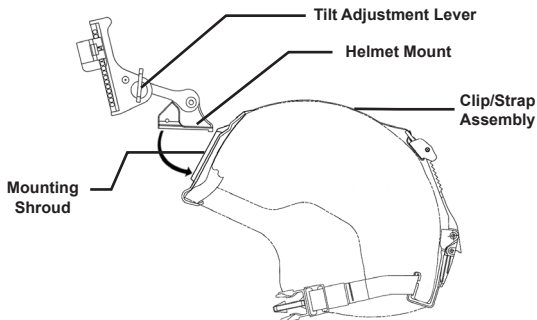

Figure 4-11. Attaching the Mount Assembly to the Clip/Strap Assembly
4. With the catch in the most extended position, place the strap over the top of the helmet, center and hook the rear bracket onto the rear of the helmet. Center the front bracket hook on the front of the helmet and hold it in place (see Figure 4-11).
6. If the PASGT helmet has its cloth cover and camouflage strap installed, it will be necessary to slide the camouflage strap up (30° - 45° angle) at the front of the helmet (see Figure 4-11).
10. To install the mount assembly into the clip/strap assembly, place it over the top of the mounting clip and slide it down until it locks into place with a click (see Figure 4-11).